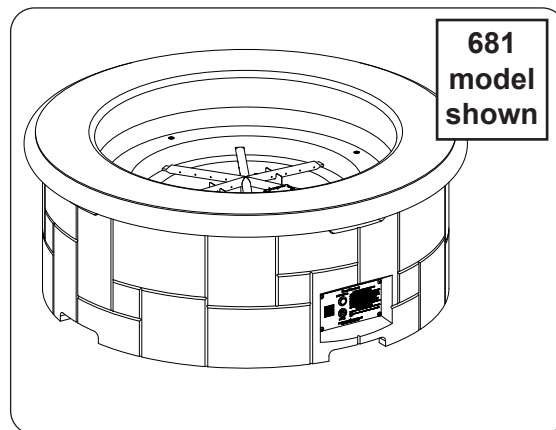

Fig. 27-1 Place unit
1. **CAREFULLY** place unit in an appropriate location (see Fig. 27-1, and refer back to the LOCATION section if needed).